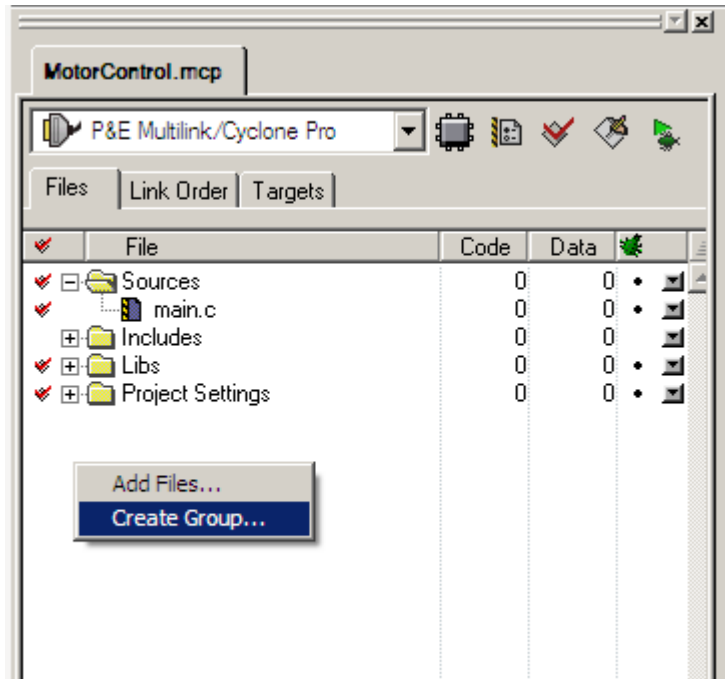

Figure 2. Creating Groups
1. Add three new folders to the project by creating groups. To create groups, right click on the project window and pick Create Group. Folders names must be: shared, drivers, and SMAC. See Figure 2.